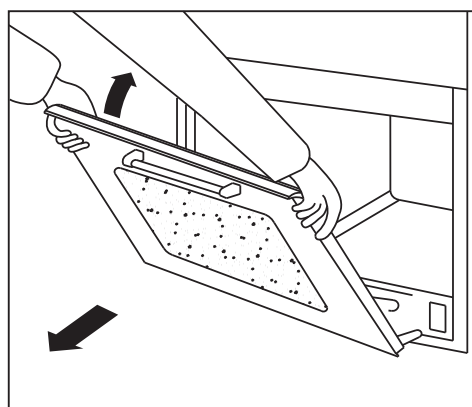

Figure 3
4. Pull the door towards you, pulling it out of its seat. Door will gently come away from the oven. (Refer to Figure 3.)